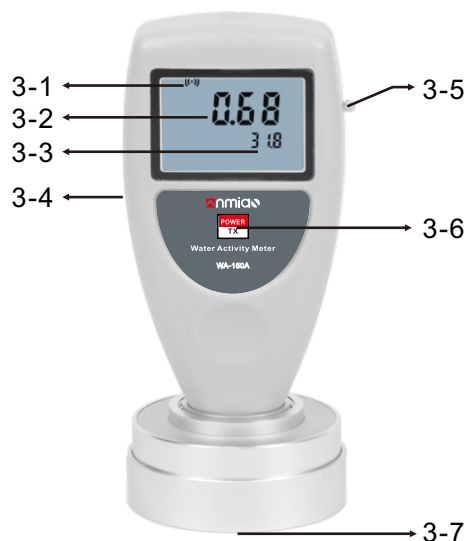

Fig. 1
7.2 Slide the Battery Cover (Fig.1,) away from the instrument and remove the batteries.